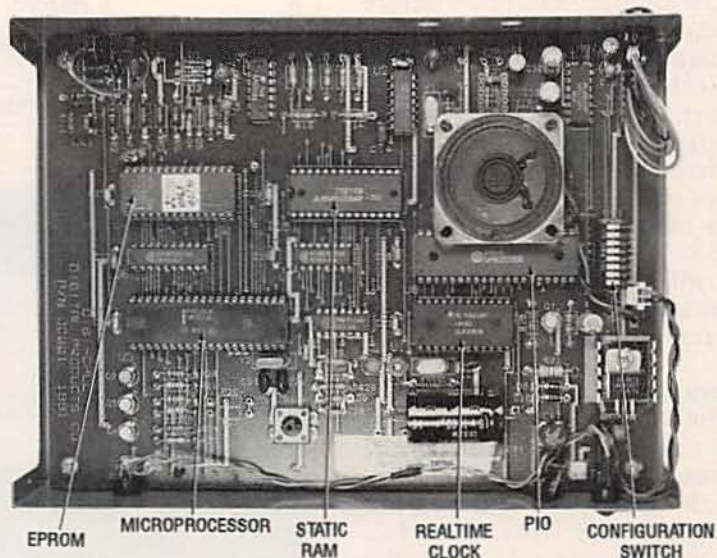

FIG. 7—CABLE CONNECTIONS can be hard-wired or made using header connectors. Here's the completed prototype.
Cable connections can be hard-wired or made using header connectors (recommended). The "tip" input (T) of the line interface goes to the red wire of the telephone line cord, and the "ring" input (R) goes to the green wire. Connect the "+" and "-" leads of the battery connector to a six-cell AA Ni-Cd battery holder. Wire the wall transformer to the "AC" inputs. Last, connect the DB25 connector to P1 as shown in Table 4. Figure 7 shows the completed prototype.